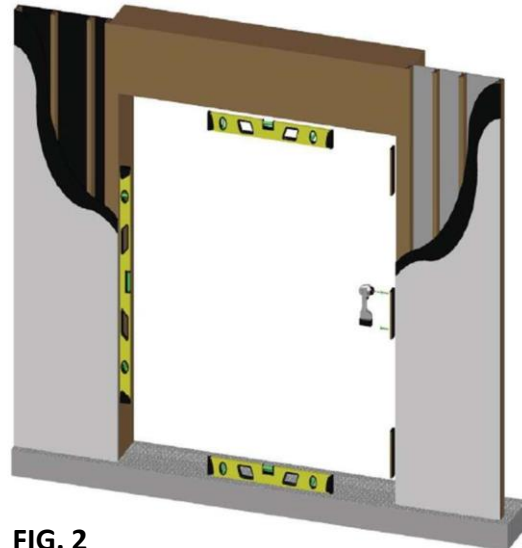

FIG. 2
3. Once you are sure that the frame fits properly in the opening, it is time to prepare the opening for the new system. If the opening needs to be shimmed, go ahead and apply the shims as necessary. There should still be at least 1/2" of clearance around the entire system. **(Fig.2)**